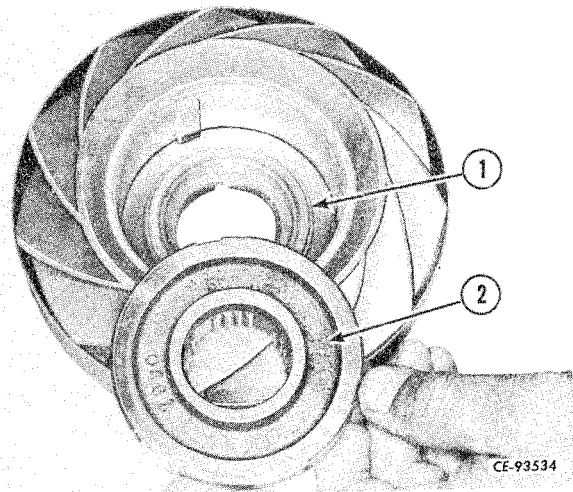

Figure 3-21
Slide the hub (2, Fig. 3-21) from the stator bore. Slide out the remaining thrust washer (1). The remaining snap ring need not be removed unless replacement is required.